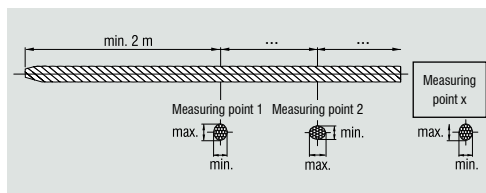

Fig. 3: Measuring points for ropes in operation
- On **new ropes** (see definition in the previous section), measure two measuring points that are at least one metre apart from each other. Furthermore, don't measure closer than 2 m from a rope end or rope end connection, as, depending on the end processing, the rope structure may not be representative there, Fig. 3.